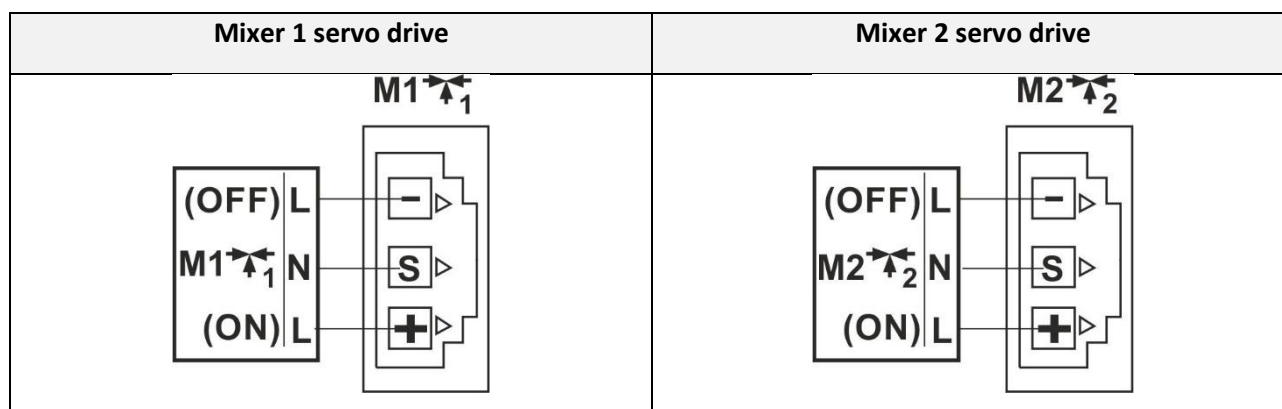

Figure 22. Wiring diagram of Mixer servo drive
- connect the Mixer drive with the controller via the connector on the left wall of the switchboard to the controller (see Figure 22) according to the technical documentation of the actuator manufacturer. Pay attention to the correct designation of the wires for opening and closing the valve.